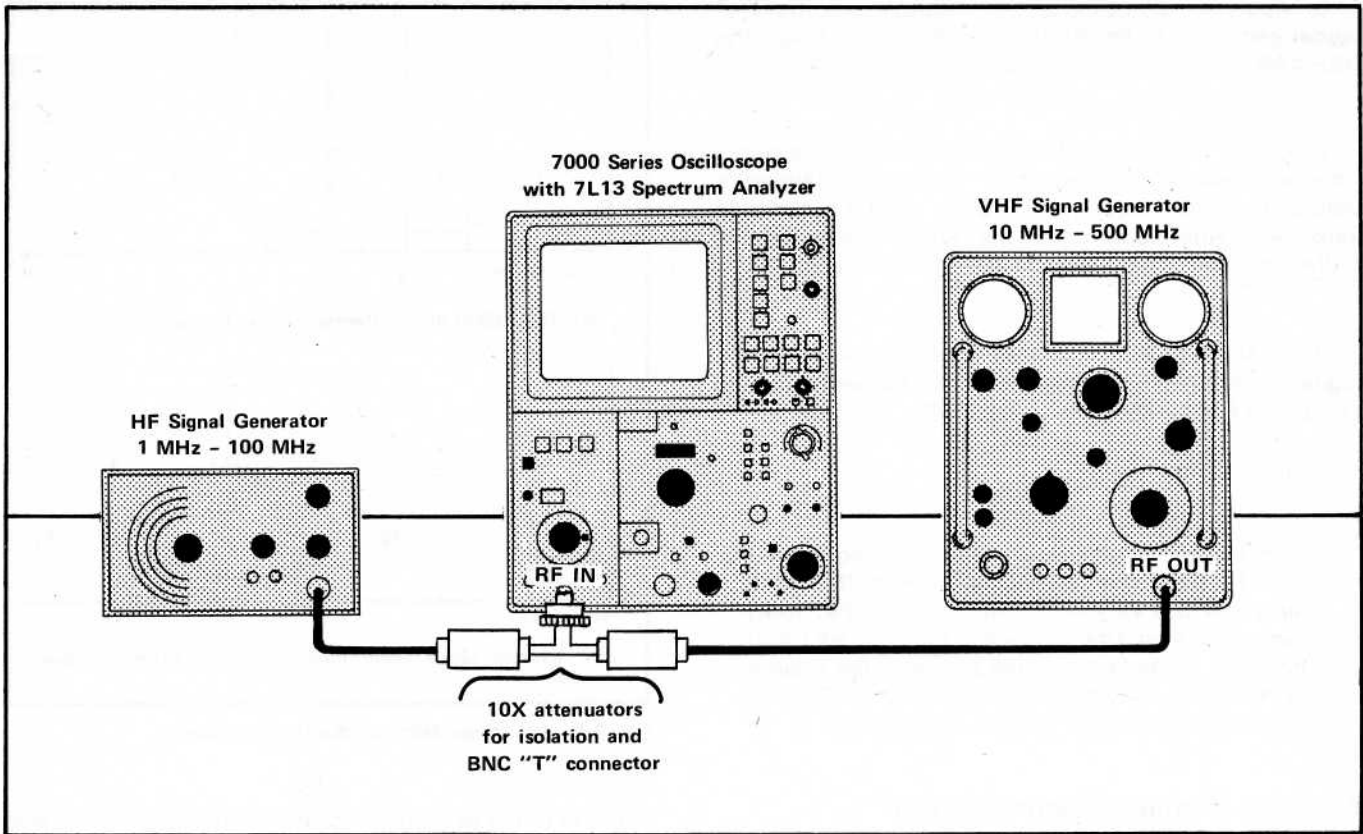

Fig. 3-7. Equipment setup and connections necessary to measure intermodulation distortion.
b. Apply two signals that are separated approximately 2 MHz, from the output of two 50Ω signal sources, through 10X attenuators (for isolation), then through a BNC "T" connector, to the RF INput of the 7L13. Fig. 3-7 illustrates this setup.